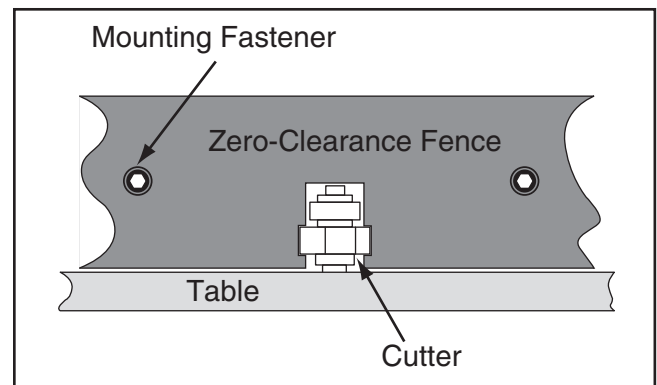

Figure 34. Example of a zero-clearance fence.
4. Cut an outline of the spindle and cutter from the center of the stock selected in **Step 3**, as illustrated in **Figure 34**.